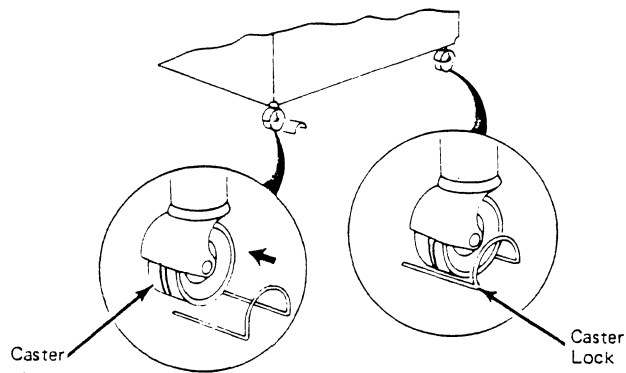

Figure 6-1. Placing Caster Locks on the Casters
1. Place the caster locks on the casters (PN 184886) (Figure 6-1).